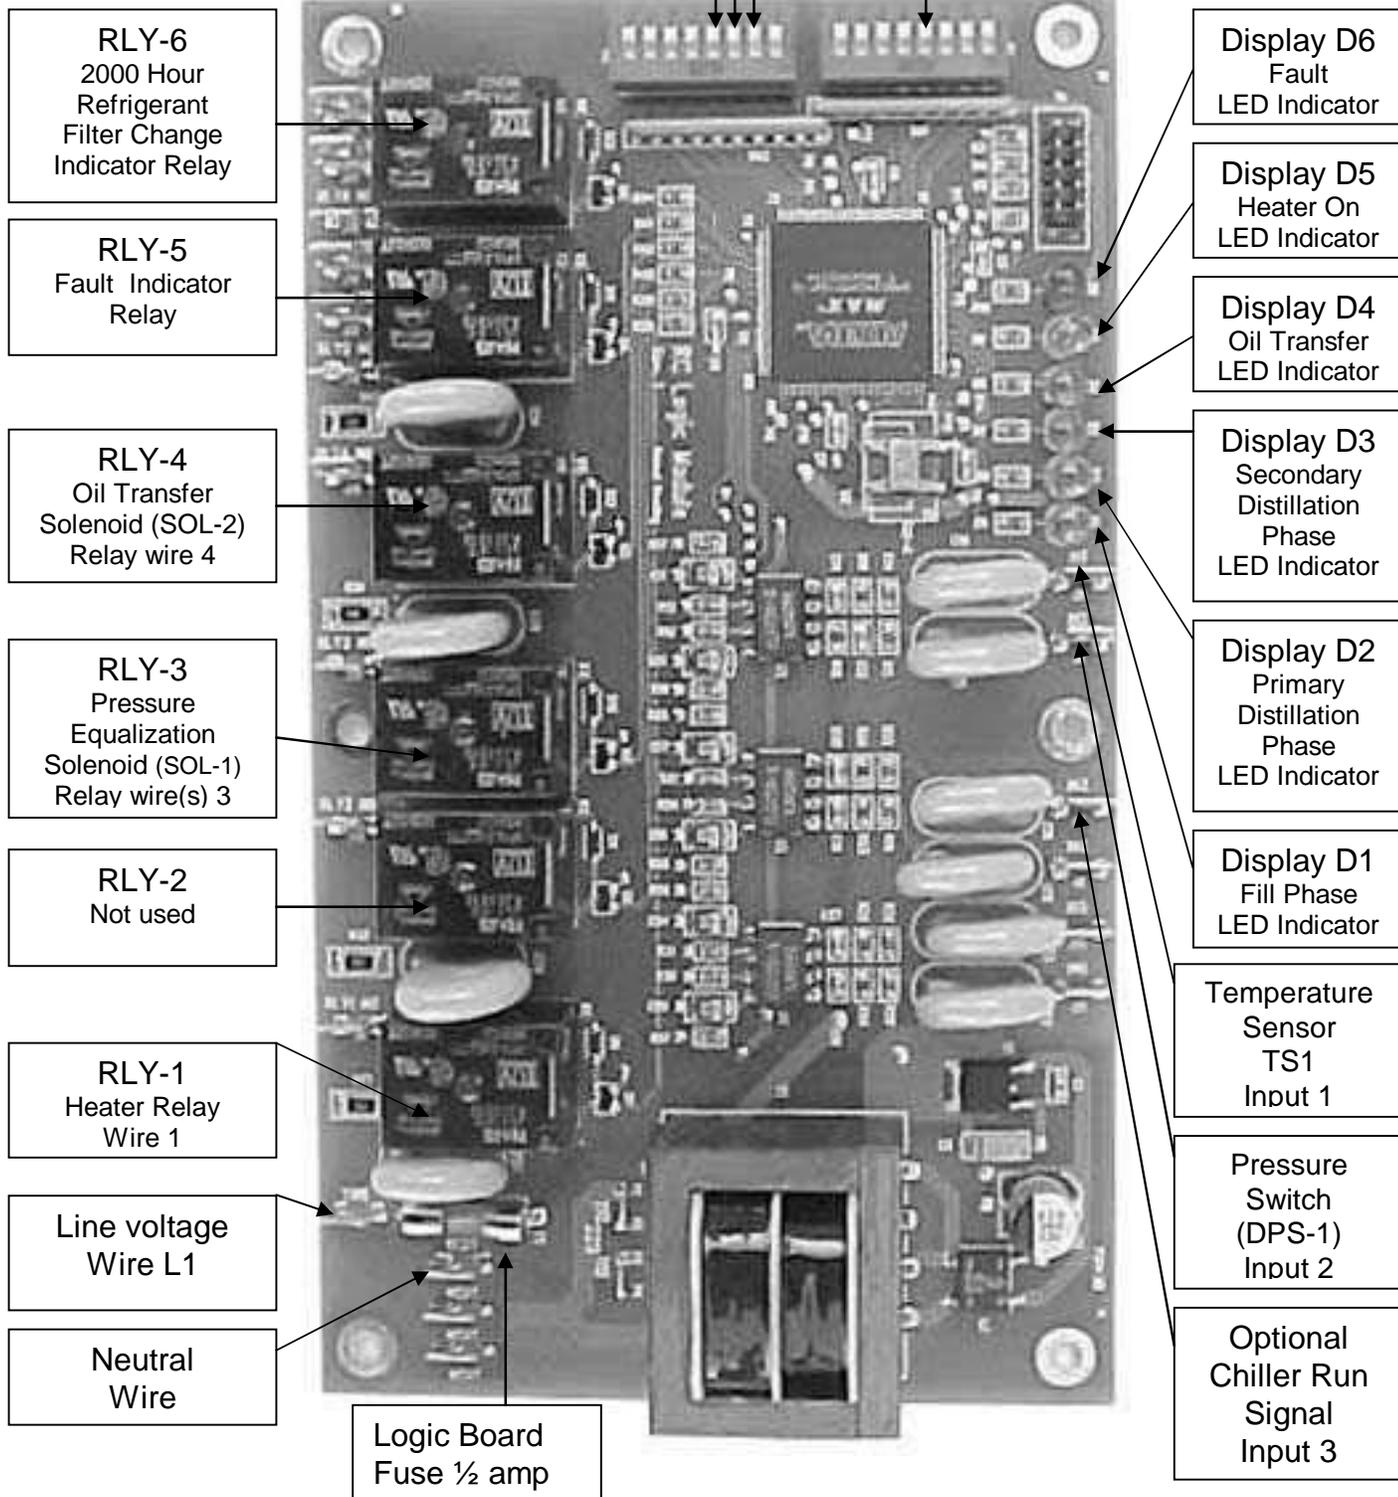

Figure 7. – Solid State Logic Circuit Board
14. The **Green LED** indicator **D1** (see Figure 7, page 33) should now be **blinking**, indicating the purger is in Fill Phase 1 and the Distillation Tank is being filled by gravity with refrigerant / oil mixture from the Chiller.
(See Figure 6, page 31, Figure 7, page 33 and Figure 8, pages 34 and 35.)
(See Fig. 7, Page 33 for further information.)
Dip Switch (SW1) & (SW2) During normal operation All Dip Switches on the OAM Purger MUST be in the off position. During diagnostics and leak testing procedures certain Dip Switches on Switch SW2 are placed in the on position. If the “Chiller Run Signal Option” is utilized, Dip Switch 4 on Switch SW1 will be in the on position. (See Fig. 7, page 33.)
(See Figure 7, on page 33)
Dip Switch (SW1) & (SW2) During normal operation All Dip Switches on the OAM Purger MUST be in the off position. During diagnostics and leak testing procedures certain Dip Switches on Switch SW2 are placed in the on position. If the “Chiller Run Signal Option” is utilized Dip Switch 4 on Switch SW1 will be in the on position. (See Fig. 7, page 33.)
5. Remove cover from Electrical Panel, on **Switch SW2** flip **Dip Switch 3** to the **ON** position. ***(This procedure allows the Oil Return Solenoid Valve ONLY to energize when power is reapplied.) (See Figure 7, on page 33 for location of SW2.)***
13. Flip **SW2**, dip switch 3 back to the **OFF** position. ***(See Figure 7, on page 33 for location of SW2.)***
WARNING: Be sure DIP Switches 2, 3 and 4 on Switch SW2 are returned to the **OFF** position when finished. If any of these DIP Switches are left in the ON position, the OAM Purger will not function. (See Fig. 7, page 33 for location of Switch SW2.)
WARNING: Be sure DIP Switches 2 and 3 on SW2 are returned to the **OFF** position when finished. If either of these DIP Switches are left in the ON position, the OAM Purger will not function. (See Fig. 7, page 33 for location of Switch SW2.)